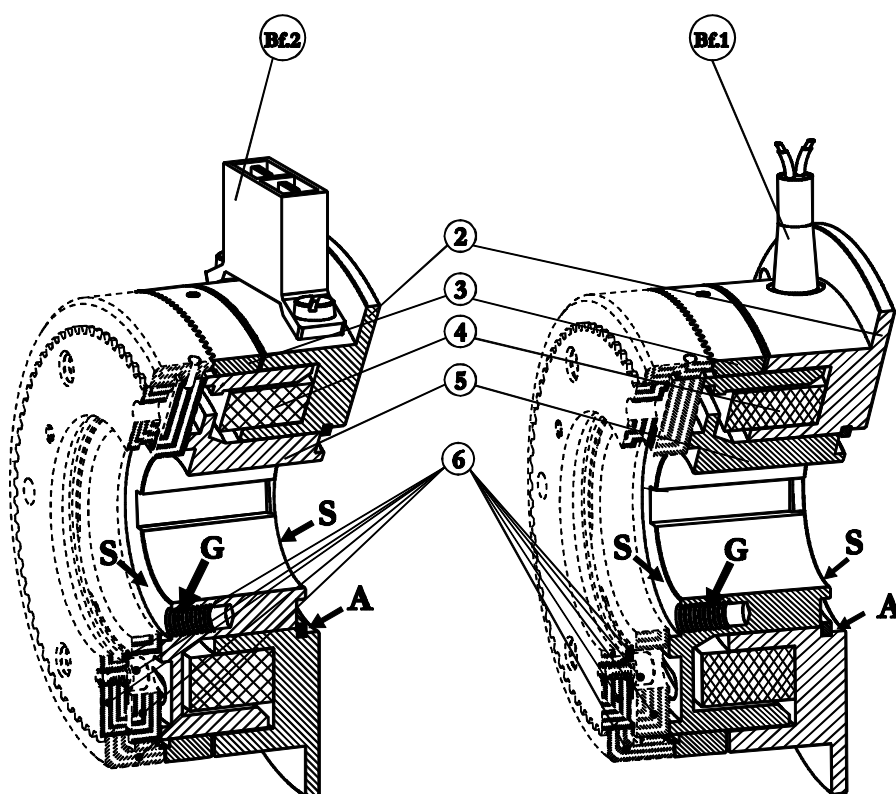

Figure 1: Sectional drawing and individual parts
- For dismantling the clutch, use pull-out thread **"G"** attached to the face of the rotor (see fig. 1).